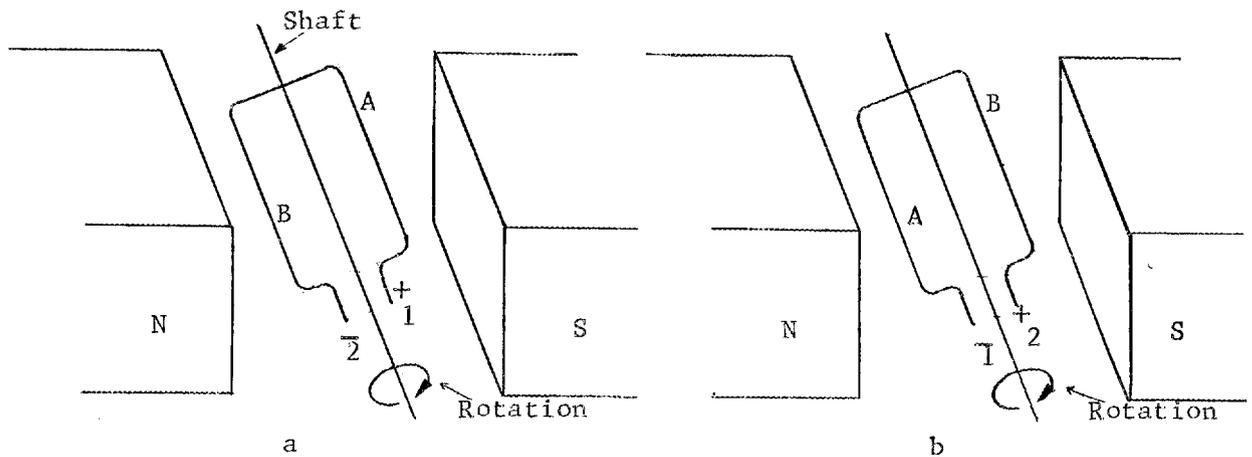
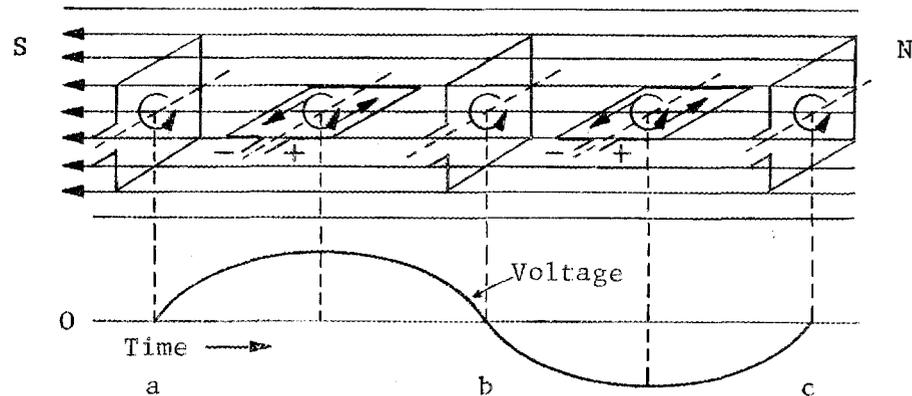

Fig. V-19. Wire Loop Rotating in a Magnetic Field
Fig. V-20. Voltage Generated in a Loop of Wire Rotating in a Magnetic Field
potential difference develops between the ends of a conductor moved across a magnetic field. A practical arrangement for moving a conductor continuously in a magnetic field is illustrated in Figure V-19.
174. The direction in which the current will tend to flow in sides A and B of the wire loop in Figure V-19 can be determined by applying the _____-_____ rule.
176. The voltage induced in side A of the loop of the wire in Figure V-19 is of such polarity that it _____ a different (adds to, opposes) that induced in side B.
177. The loop in Figure V-19 generates (ac, dc) when _____ adds to rotated.
178. If the loop in Figure V-19 were made of two turns of wire instead of one, there would be four conductors crossing the magnetic flux field; and the potential difference between the terminals (1 and 2) would be (the same, twice as much) as with one turn.
179. The voltage developed in an arrangement such as that of Figure V-19 depends on the number of magnetic lines of force the conductor crosses per second. The voltage, therefore, may be changed by changing (1) the speed of rotation of the loop, (2) the strength of the magnetic field, and (3) the number of turns of conductor in the loop.
180. Figure V-20 illustrates the change in the voltage and polarity of the potential difference between the ends of the loop in Figure V-19 as it is rotated.
181. An important measure of an alternating current is its "frequency". The frequency is given in "cycles per second" or "hertz" (abbreviated "hz"). One ac cycle is plotted in Figure V-20. At time "a" the voltage developed in the loop is zero. Between "a" and "b" it rises to a maximum and then returns to zero. Between times "b" and "c" the voltage again rises to a maximum and returns to zero, but during this interval the polarity of the voltage is opposite to that developed between "a" and "b". After time "c" the voltage repeats the same changes-with-time or cycle.
182. If the loop in Figure V-20 rotated once per second, it would produce an induced voltage having a frequency of one cycle per second or one _____.